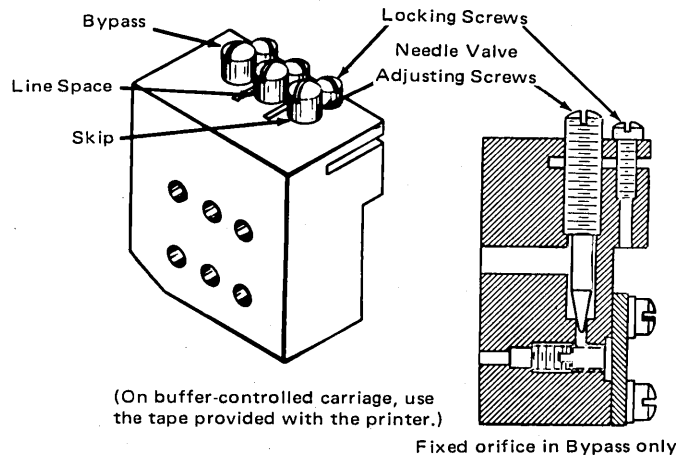

Figure 4-68. Needle Valves
4. Loosen the lockscrew for the center needle valve (the center right screw, Figure 4-68).
- b. Back off on the center left screw (Figure 4-68) until you feel the detent nip the detent wheel. The impact is transmitted through the screwdriver.
Loosen the lock screw for the skip needle valve (the front right screw, Figure 4-68). (See 1.10.2.)
- b. Back off on the front left screw (Figure 4-68) until you feel the detent nip the detent wheel. The impact is transmitted through the screwdriver.
- (1) If no nipping is detected after turning out a maximum of five turns, stop the carriage motor so that the hydraulic pumps are not moving. Turn down on the front left screw until it is closed. Then back off five full turns on this screw. Tighten the lock screw (the front right screw).
- (2) If nipping is detected, adjust the needle valve to stop the detent from nipping.
5. Loosen the bypass (right front) needle valve lock-screw (Figure 4-68) just enough to permit adjusting the needle valve.